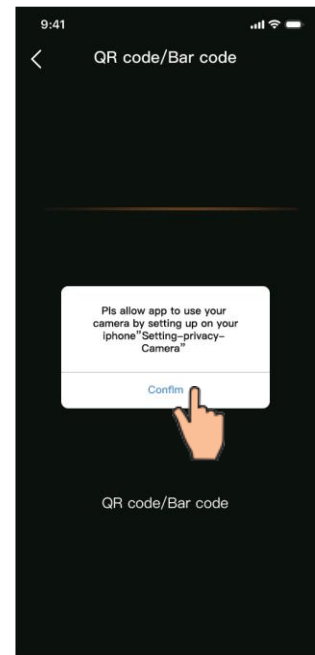

Fig.15 Scanning interface
5. Click "OK" (Fig.15) to allow the App to use the camera for scanning the WH barcode on the heat pump unit (Fig.16);